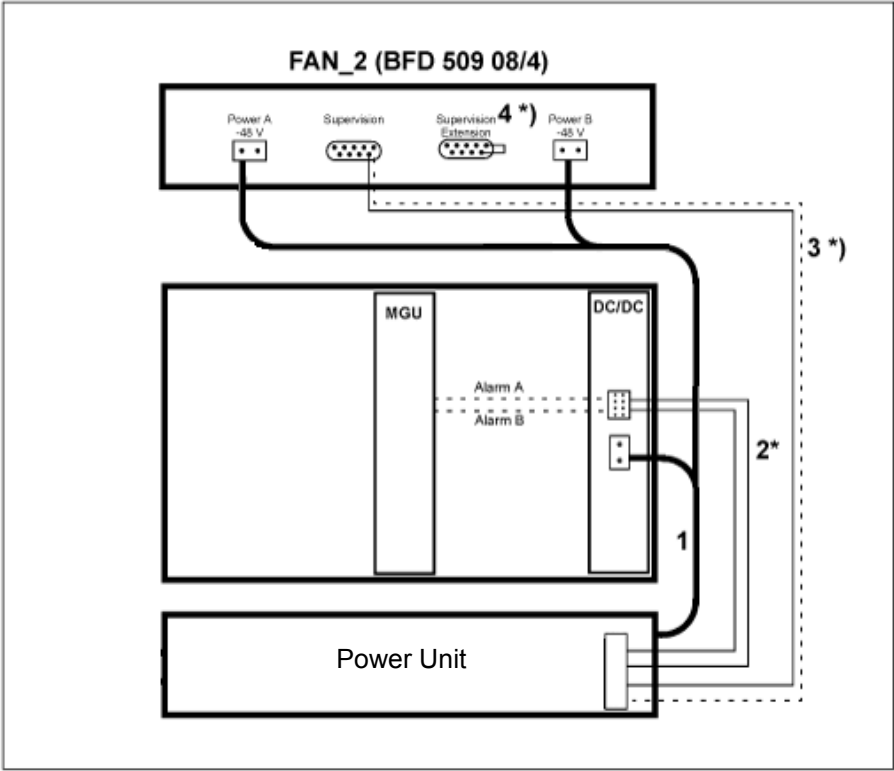

Figure 14: Splitter Cable to the Fan Unit BFD50908/4 and to 7U chassis
Splitter cables: Connect the Power to the fan unit using cable 50006938, 5 meter long or 50006937, 12 meters long, see item (1) in Fig. see Figure 14: Splitter Cable to the Fan Unit BFD50908/4 and to 7U chassis on page 21
Splitter cables: Connect the -48V power to the DC/DC-board unit using cable 50006938, 5 meter long or 50006937, 12 meters long, see item (1) in Fig. and continue with the remaining of the cable to the Fan unit. see Figure 14: Splitter Cable to the Fan Unit BFD50908/4 and to 7U chassis on page 21